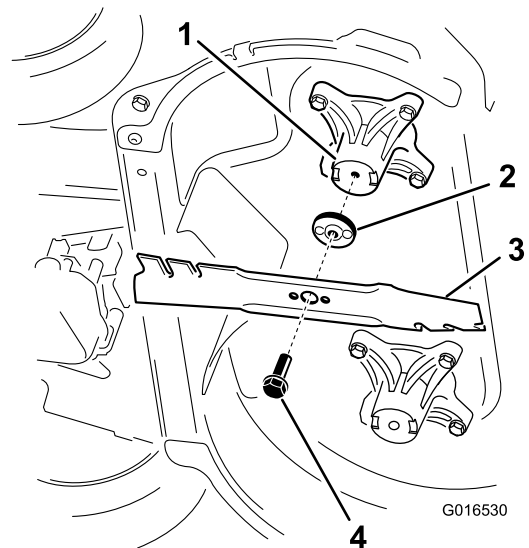

Figure 43
2. Remove each blade as shown in Figure 43.
1. Install the first blade so that it is horizontal, along with all mounting hardware as shown in Figure 43.